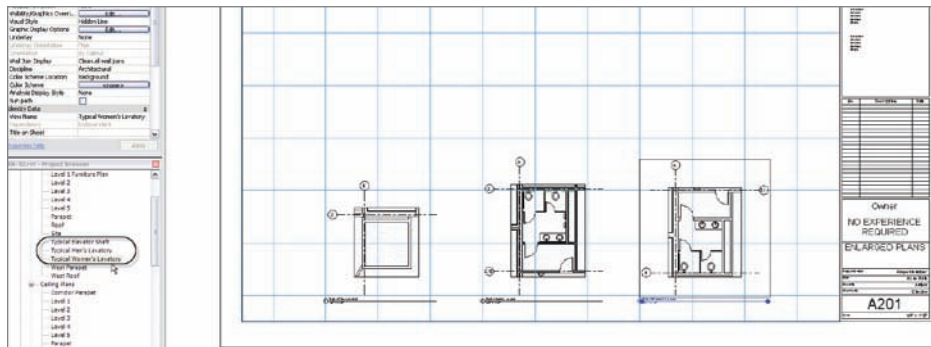

FIGURE 14.8 Creating a sheet and adding views in a row across the bottom of the page
10. Arrange them so they are in a row, as shown in Figure 14.8.